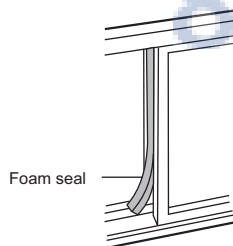

Fig.15
5. Trim the last foam seal to the proper length to seal the open gap between the two window sashes (Fig.15).